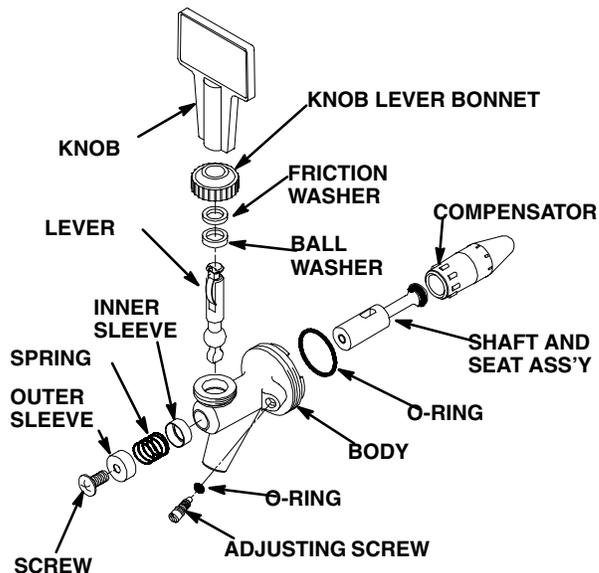

FIGURE 4. CLEANING DISPENSING VALVE
3. Adjust dispensing valves for product flow rate by turning dispensing valve Compensator Adjusting Screw (Figure 4) to the left (counterclockwise) for higher product flow rate or to the right (clockwise) for lower product flow rate.
(see Figure 4)
Turn dispensing valve Compensator Adjusting Screw (Figure 4) to the left (counterclockwise) for higher product flow rate or to the right (clockwise) for lower product flow rate.